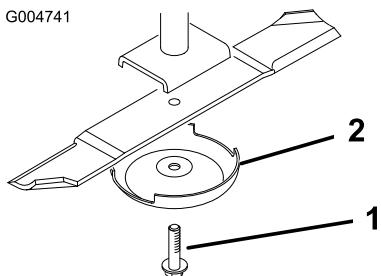

Figure 25
- Remove the blade bolt, anti-scalp cup, and blade from the spindle shaft (Figure 25).